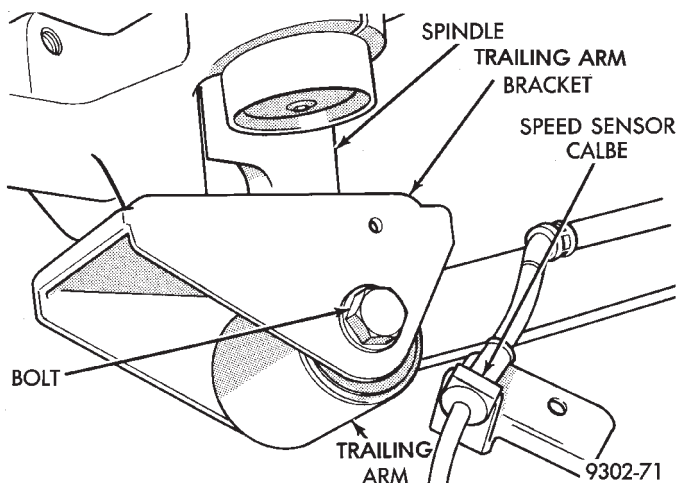

Fig. 8 Trailing Arm To Spindle Bracket Bolt
(10) Remove bolt attaching trailing arm to trailing arm bracket on bottom of spindle (Fig. 8).